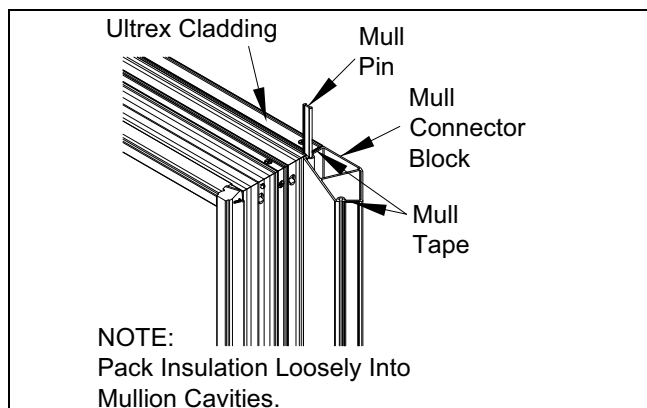

Figure 2
1. Position mull connector block (with mull tape applied) flush with exterior face of side jamb to be mulled. Align accessory kerfs and carefully tap mulling pin into kerfs using a wood block and hammer. Repeat at each mullion. Countersink mulling pins 1/2" (13) using an 1/8" punch or small nail set. See Figure 2.